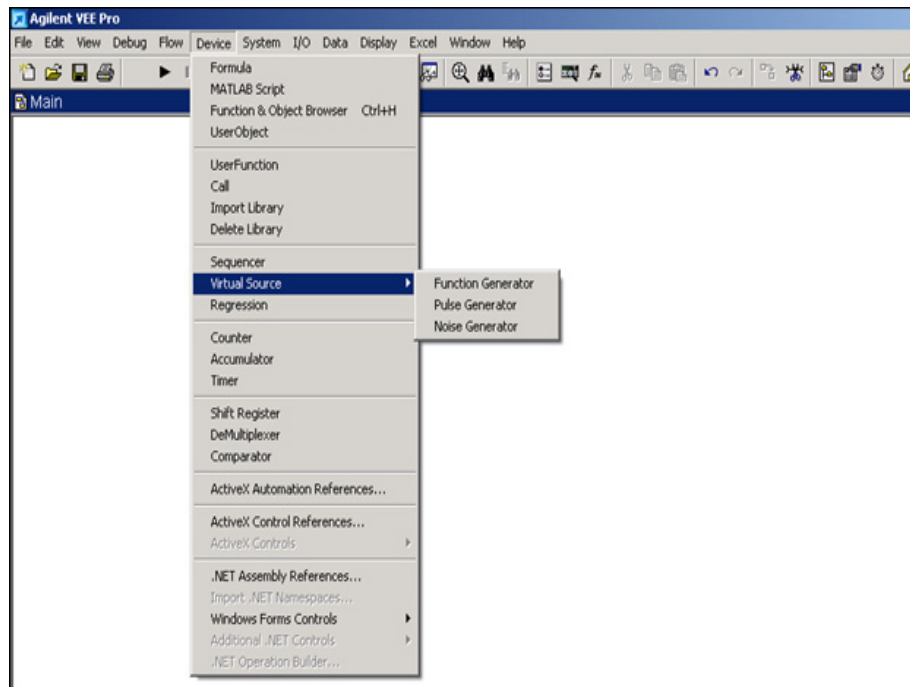

Figure 1-5 The Hierarchy of "Device" from the Menu Bar
- 2 Go to Menu Bar => Device => Virtual Source => Function Generator. See Figure 1-5. Note the hierarchy of the titles within "Device"; it includes the Function Generator.